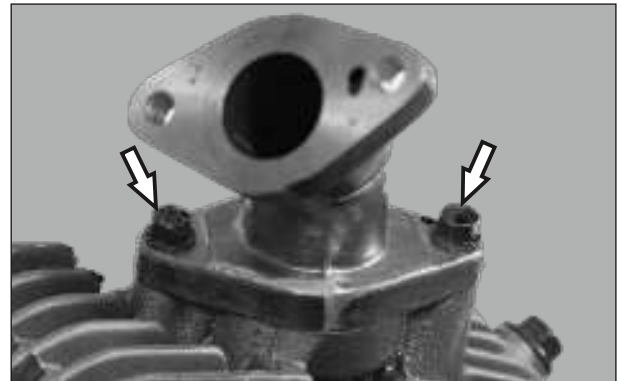

Fig. 3.32
- Loosen and remove 2 nos. M6X20 hexagonal flange bolts from pipe intake complete. ( Fig. 3.32)